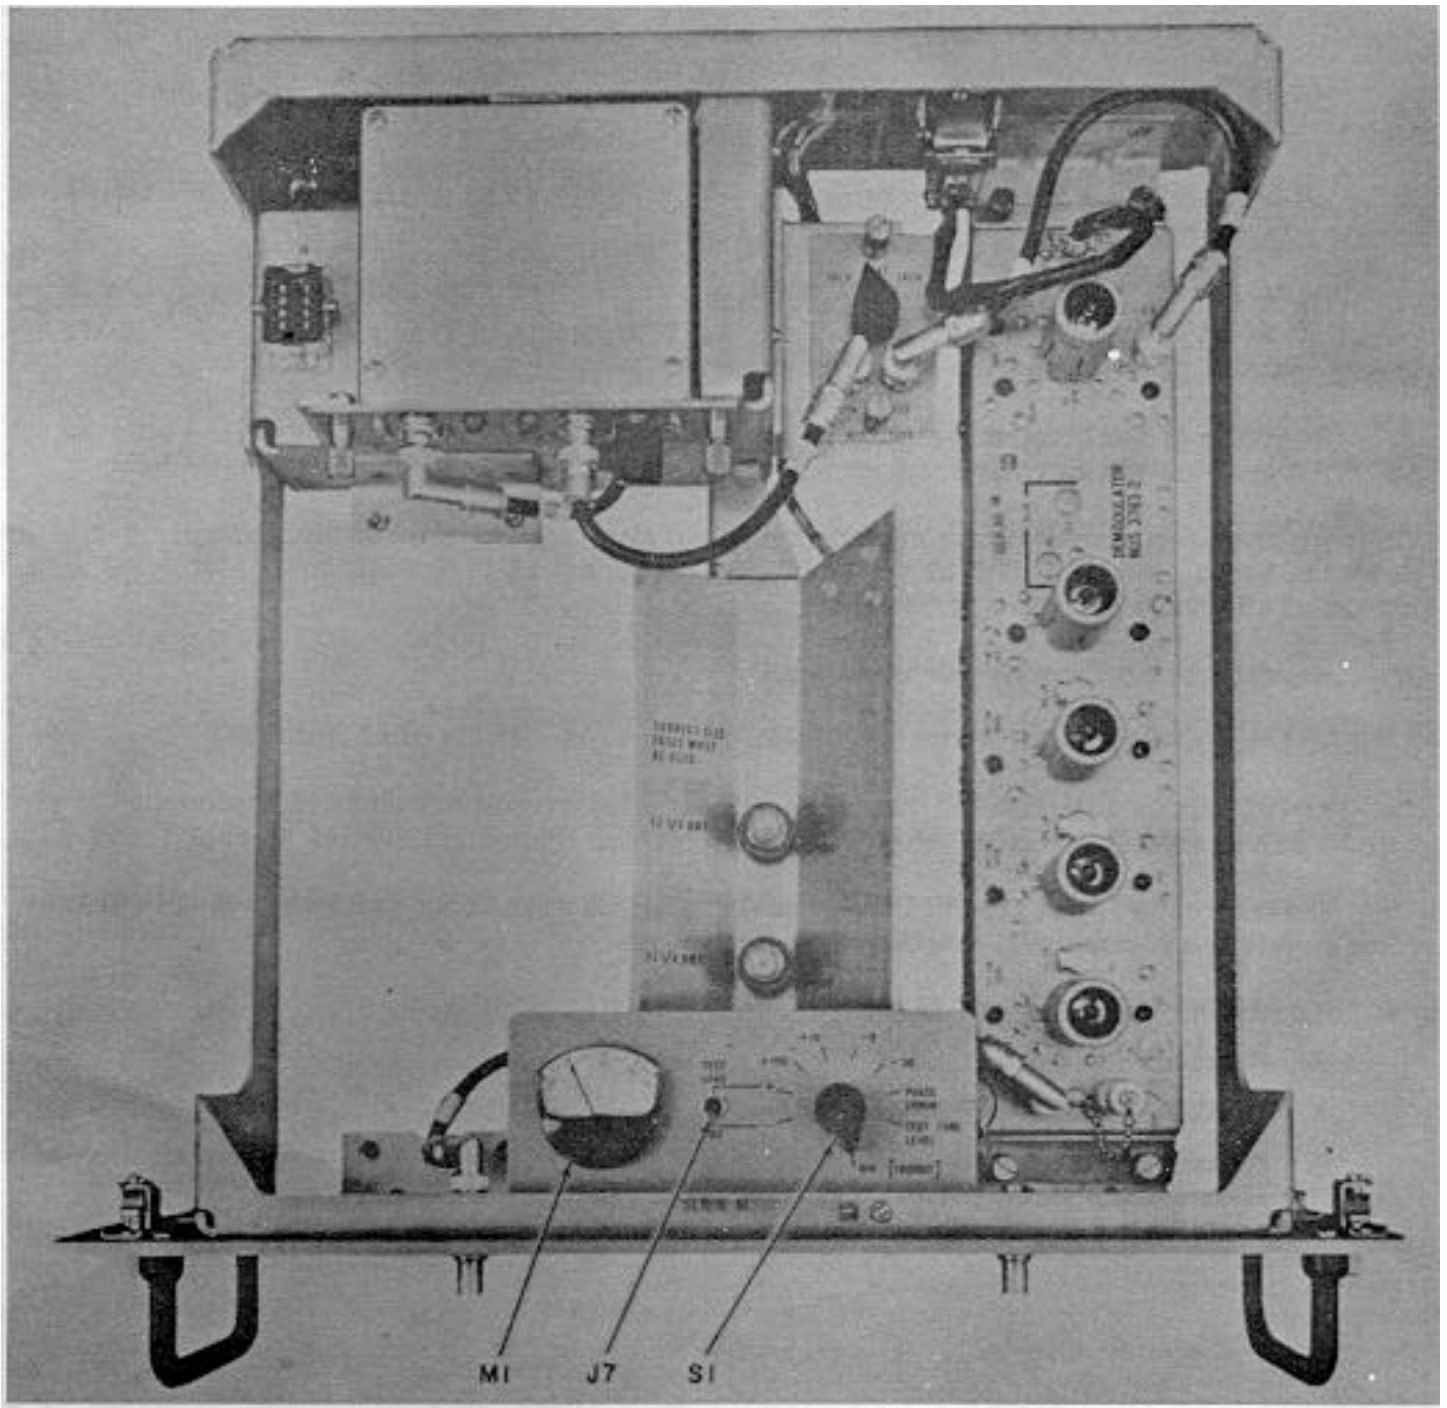

Figure 2-15. Ancillary Equipment Drawer, Top View
- e. On Ancillary Equipment drawer subpanel (figure 2-15), successively rotate meter function selector switch S1 to ± 150 , ± 15 , -5, and -30 positions. Meter M1 should indicate 100 ± 20 for each switch position.